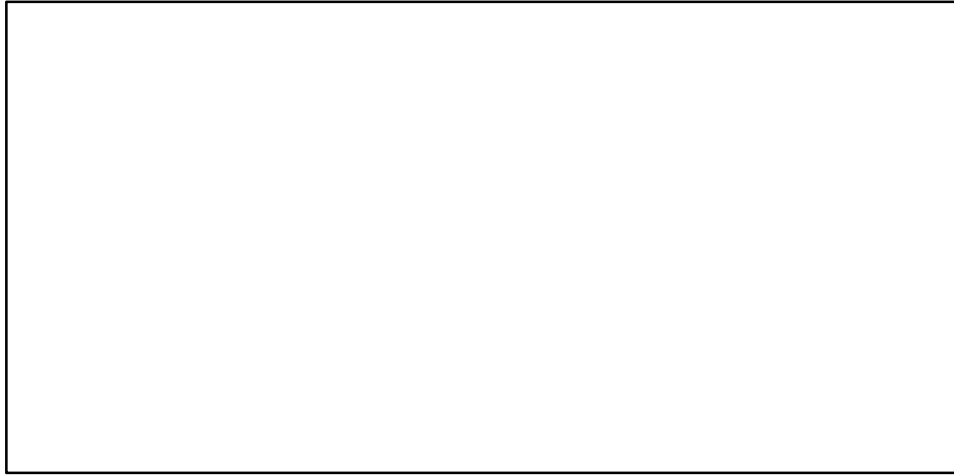

Figure 15 – Simplified circuit for the charge of the capacitor C4 during the P wave.
14. Draw in Figure 15 the simplified circuit for the capacitor charging, considering that pin 7 (output 3) is in logic “1” (9 V).